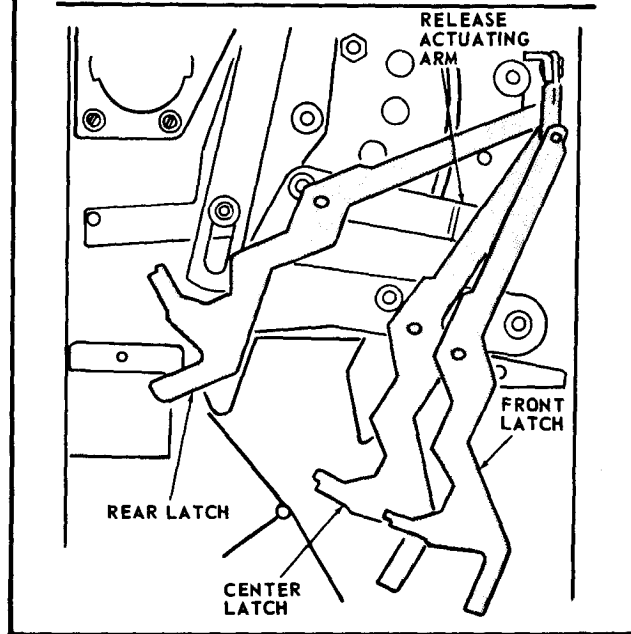

FIGURE 7
16. Grasp the Front Latch Release Assembly at the pivot point with one hand and at the unattached end with the other hand, and carefully lift the Assembly out of the Recorder Assembly and off the pivot stud. See Figure 7.
19. Carefully rotate all of the Latch Release Assemblies to a position over the Release Actuating Arm Assembly. See Figure 7.